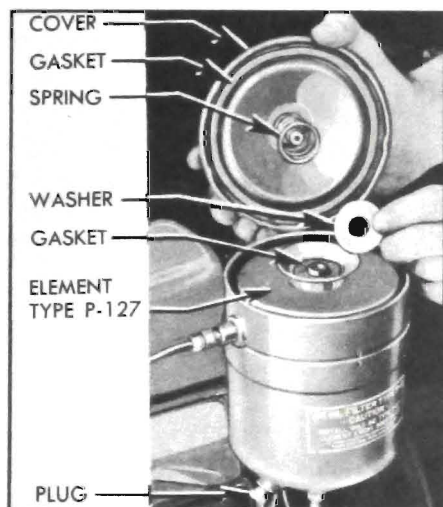

Figure 1-12—Changing Oil Filter Element
3. Oil Filter. Change original filter at first 1000 miles, the second element at first 5000 miles, then change element at each 5000 miles interval thereafter. Remove old element, remove drain plug, and thoroughly wipe out container with CLEAN cloths. Install drain plug, new element and new cover gasket. See figure 1-12. Use only Buick Oil Filter Replacement Element, Part No. 5572129 (AC Type P 127).